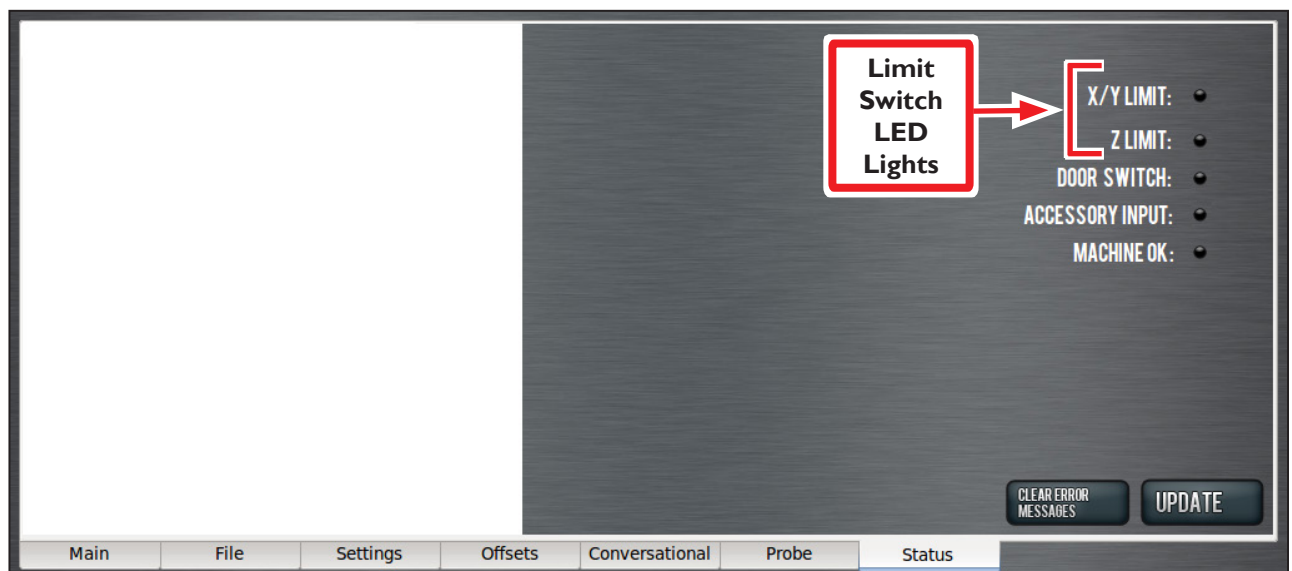

Figure 3.17
Limit switches prevent the mill from exceeding its travel limits and provide a reference location during the mill homing procedure. There are three limit switches, one for each axis of motion (X, Y, and Z), as shown in **Figure 3.17**. If a limit switch is triggered, the mill is placed in a reset state. Verify function of the limit switches as follows:
2. Manually depress X, Y, and Z limit switches by hand (see **Figure 3.17**).